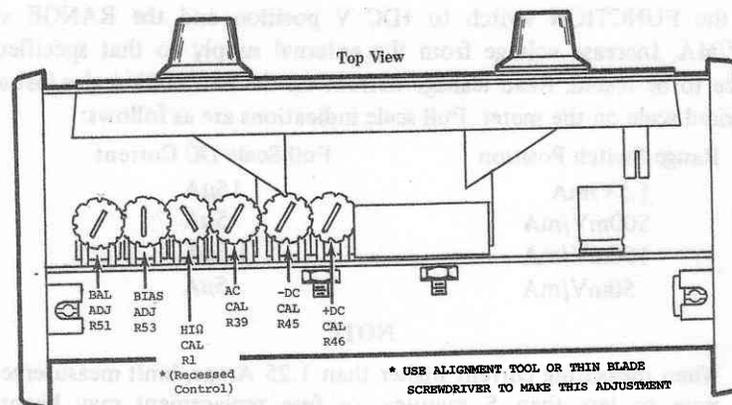

Figure 4. Adjustment Locations
CALIBRATION OF THE 290 (SEE FIGURE 4 FOR ADJUSTMENT LOCATIONS): To gain access to the calibration adjustments it will be necessary to remove the back from this instrument. To remove the back cover, remove the two (2) screws located at the bottom rear and the two (2) screws at the rear near the top of the cover. After the screws have been removed, tilt the bottom part of the back cover outward (away from rear of unit) allowing the line-cord to slide through opening and then gently lift the back cover up and away from the top portion of the front panel. Adjustments must be made in the order indicated below: